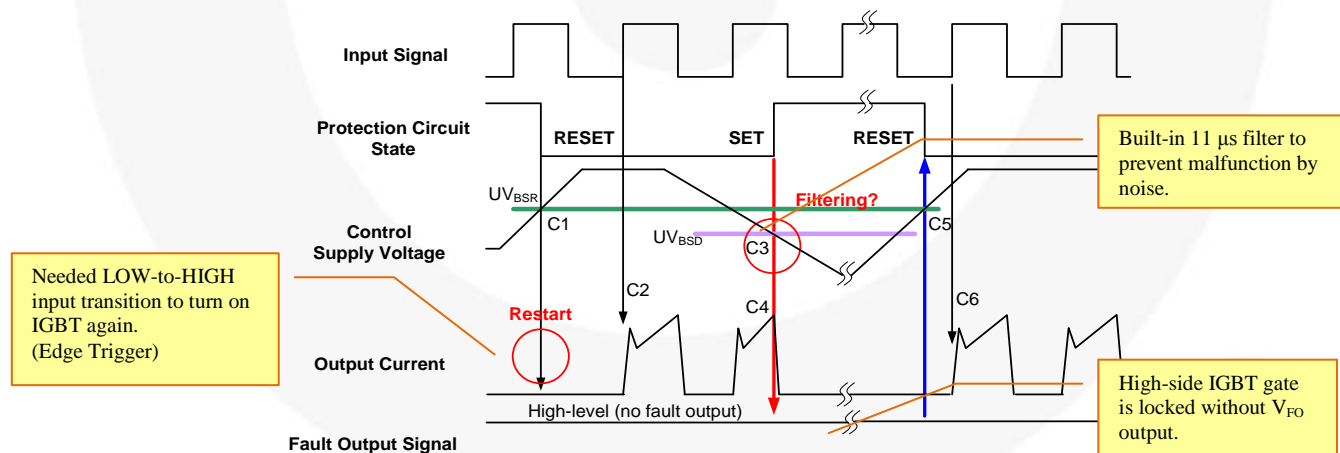

Figure 15. Timing Chart of High-Side Under-Voltage Protection Function
The HVIC has an under-voltage lockout function to protect the high-side IGBT from insufficient gate driving voltage. A timing chart for this protection is shown in Figure 15. A fault-out (FO) alarm is not given for low HVIC bias conditions.